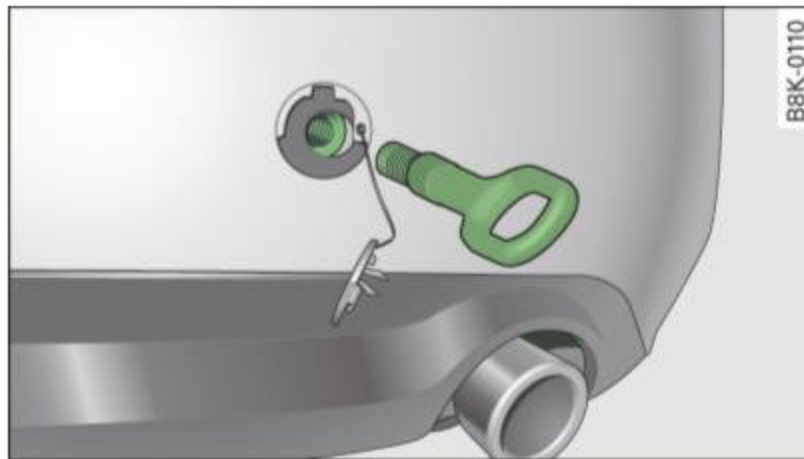

Fig. 236 Rear bumper: Screwing in towing loop
- Press the cover in by applying short strong pressure to the bottom part to release it from the bumper ⇒ *fig. 236.*